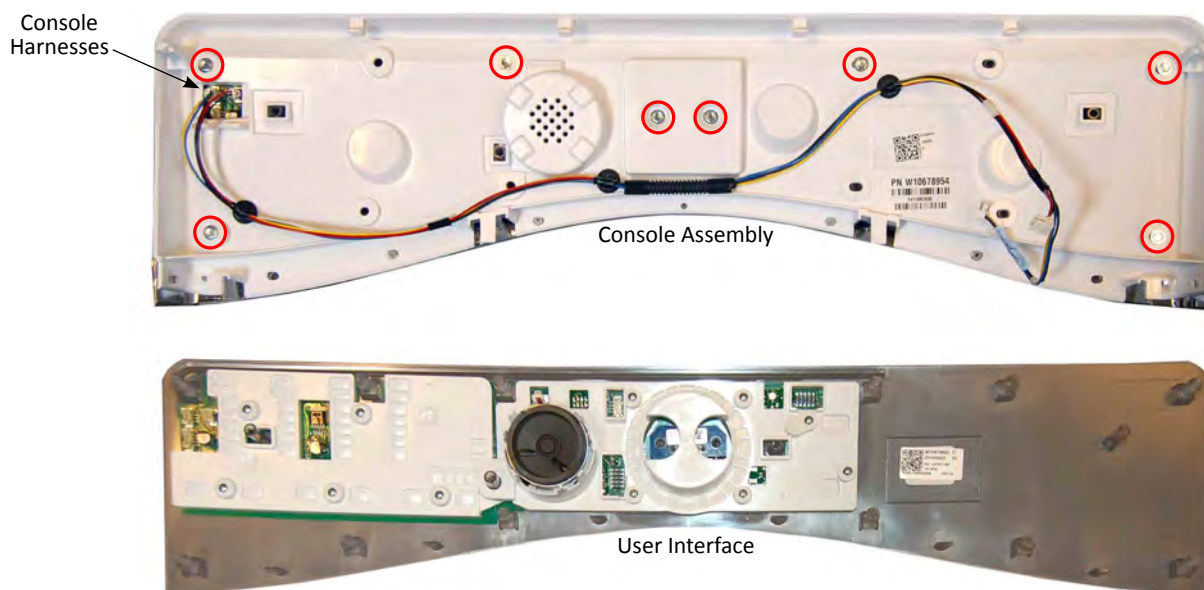

Figure 3
5. Remove the eight (8) 1/4" hex-head screws securing the user interface to the console as illustrated in Figure 3.